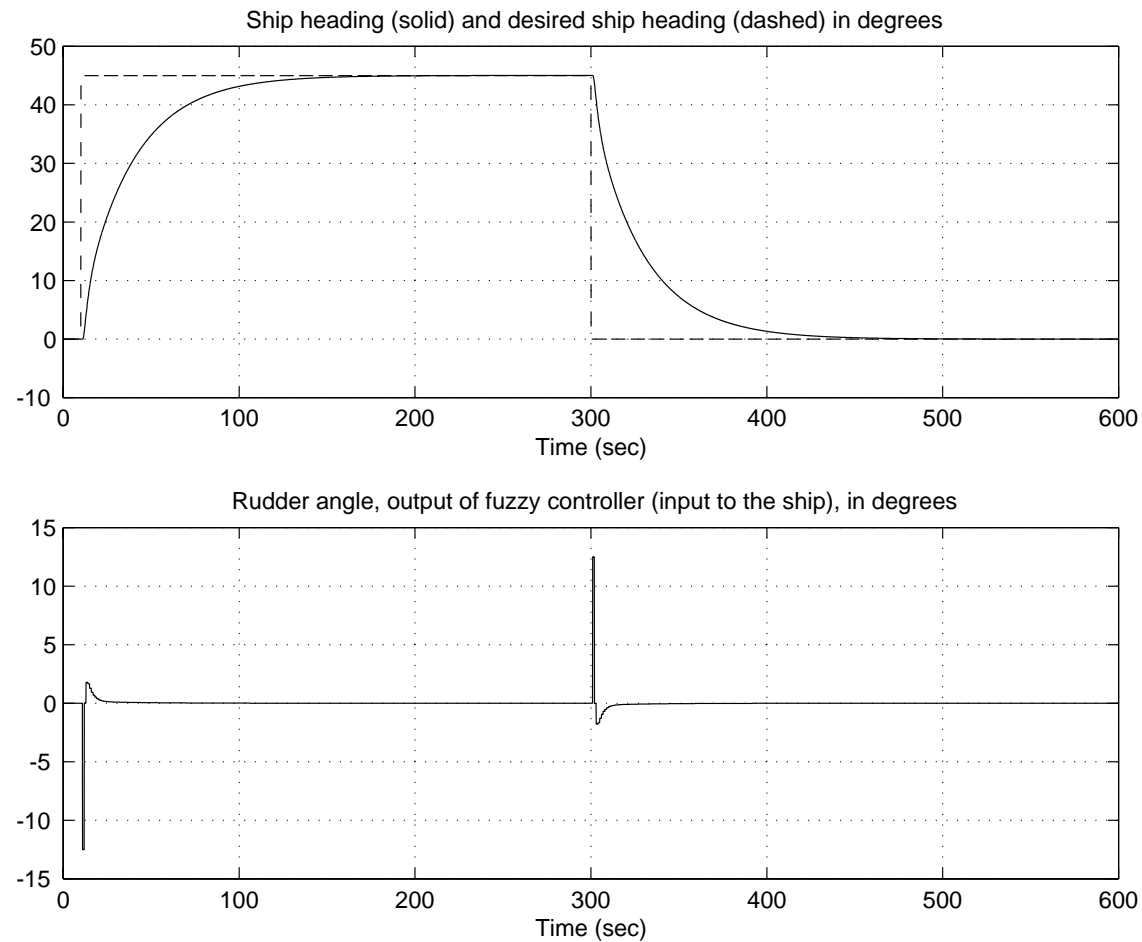
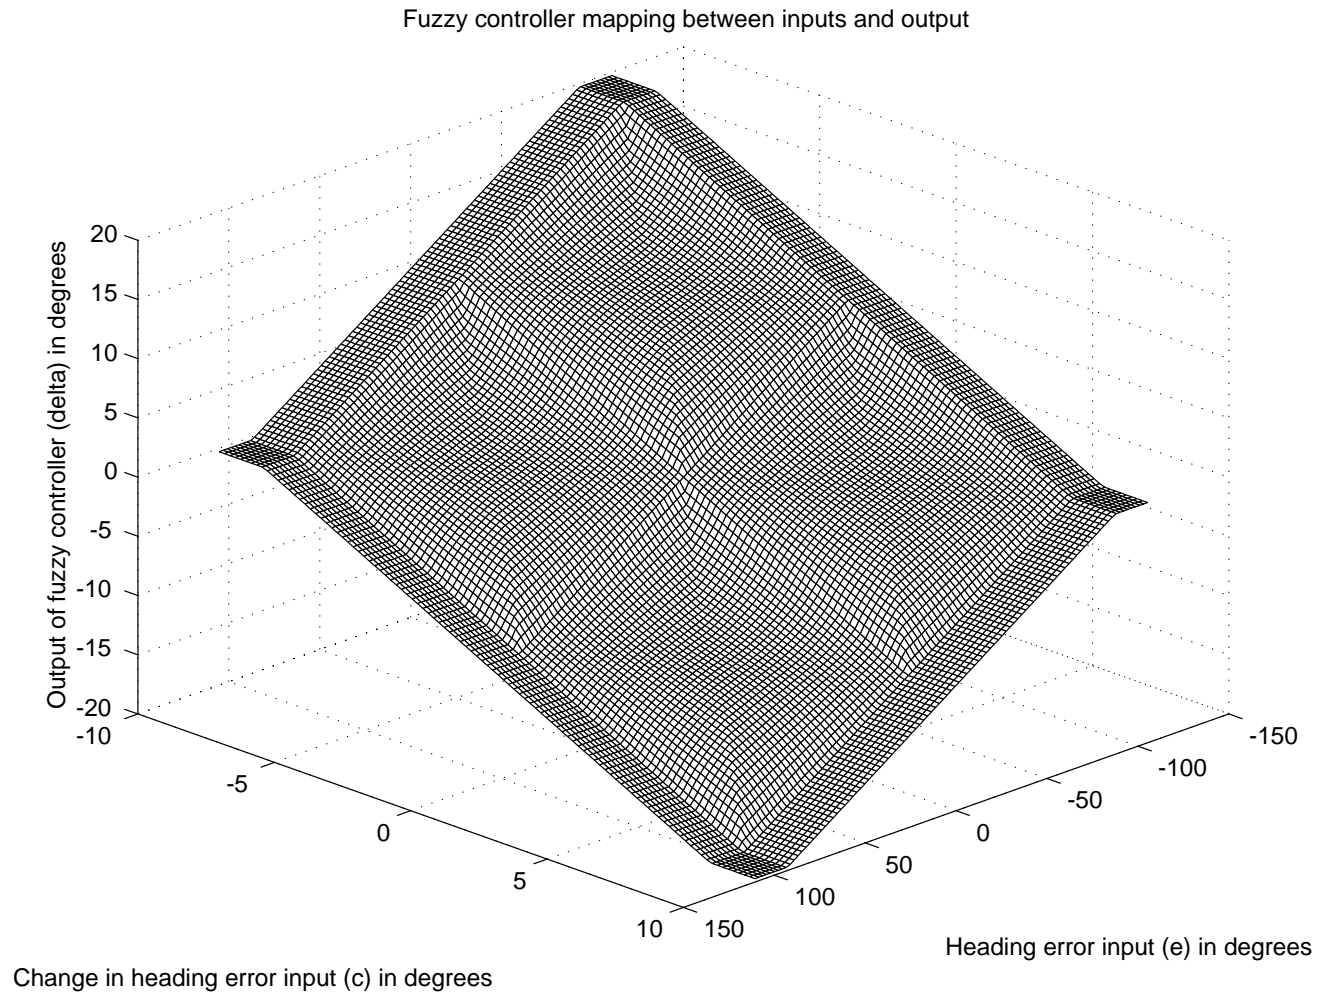

Figure 6: Response of fuzzy control system for tanker heading regulation, first guess ($g_1=1/\pi$; , $g_2=10$; , $g_0=2*\pi/18$;).
Figure 8: Fuzzy controller surface.
- Using a nonlinear model for a tanker ship we get the response in Figures 6 and 7 (tuned) and the controller surface in Figure 8.